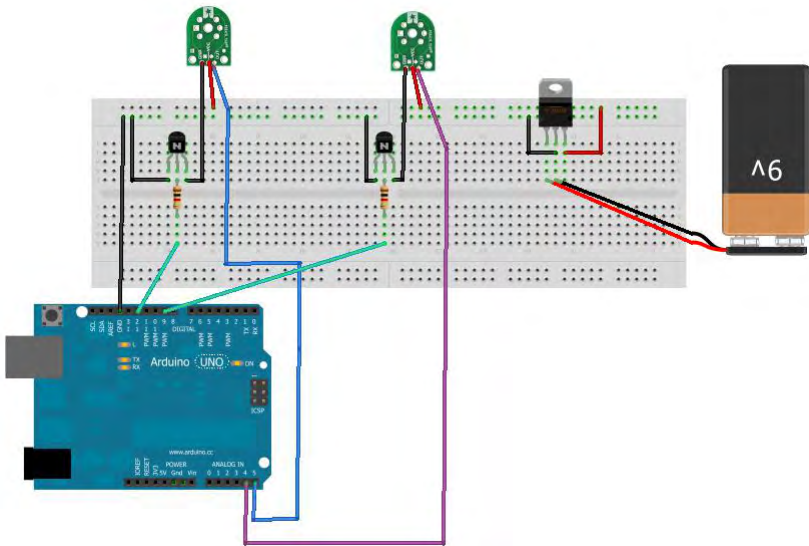

Figure 2-9. Step six.
6. Connect the 7805 +5 VDC voltage regulator. This regulates the voltage coming from your independent power source for the sensor heaters. Like the transistor, the voltage regulator also has three terminals: a center pin goes to GND, the pin on the left is input, and the pin on the right is output (Figure 2-9).